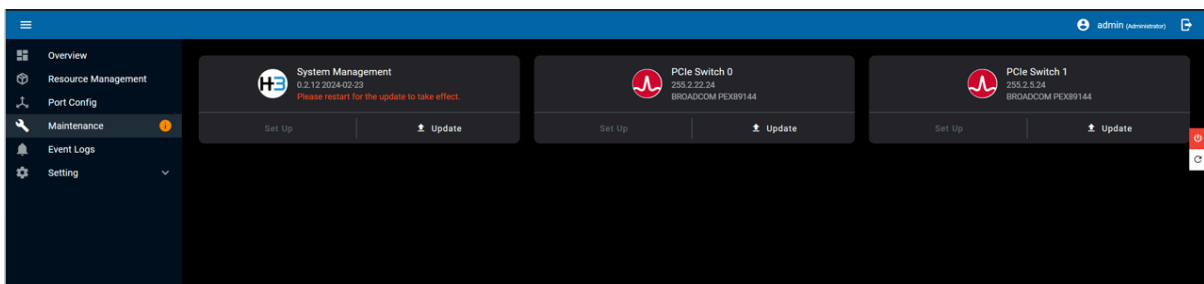

Figure 85. Post-Update Reminder Prompt in Maintenance Menu
2. If another user logs in or opens a new GUI session after the update, a reminder message will appear next to the Maintenance menu on every page (refer to Figure 85).